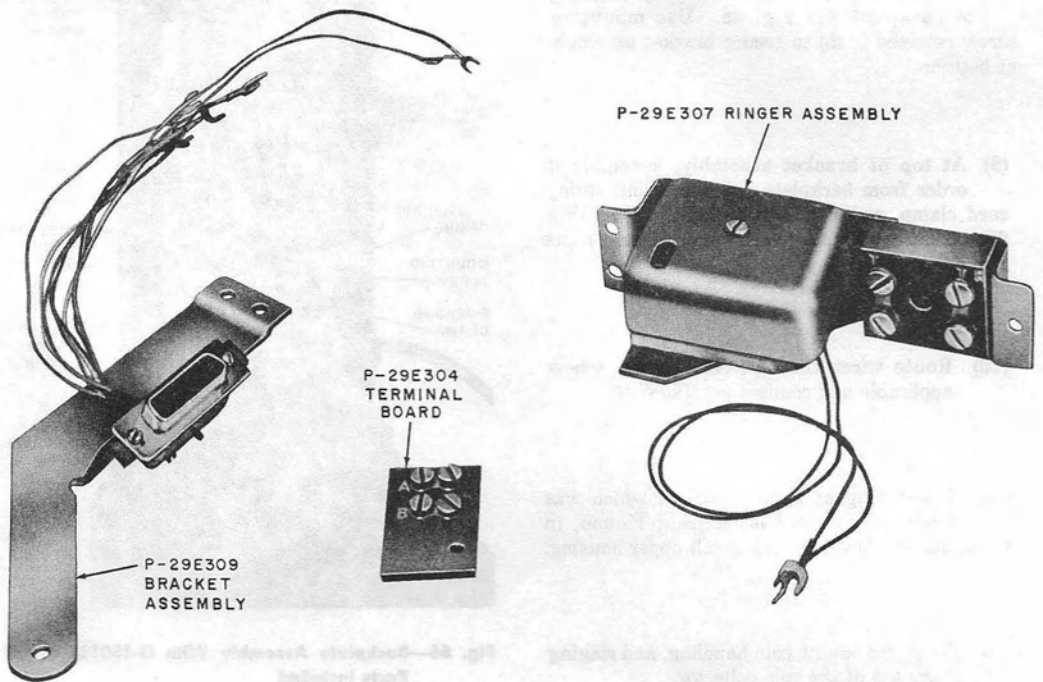
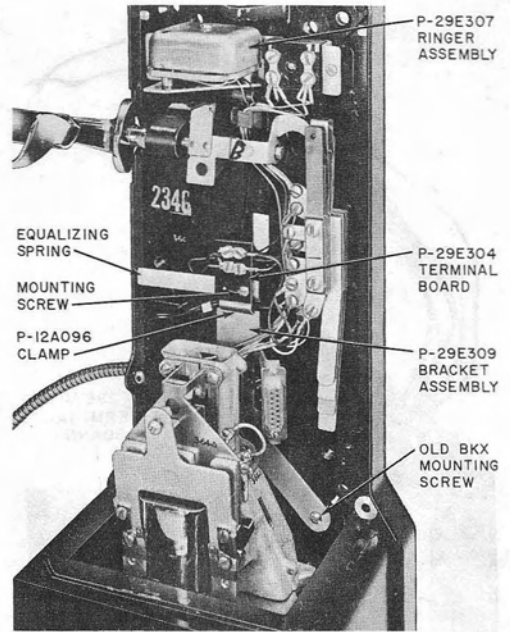

Fig. 65—D-180120 Kit For Modification of Backplate Assembly
Fig. 66—Backplate Assembly With D-180120 Kit of Parts Installed
**7.02** The D-180120 kit to be installed in the field consists of P-29E307 ringer assembly, P-29E309 bracket assembly, and P-29E304 terminal board (Fig. 65).
(1) Disconnect wires per Table M.
- (2) Remove subscriber set.
- (3) Disconnect (BK) wire from between BBX of switchhook and BB of transfer contacts.
- (4) Remove and discard terminal plate assembly at top of backplate assembly. Retain hardware.
- (5) Install P-29E307 ringer assembly (Fig. 65) in same position as terminal plate assembly was located using the retained hardware (Fig. 66).
- (6) Remove and discard BKX transfer spring at right of coin relay. Retain mounting screw.
- (7) Remove and retain equalizing spring, cord clamp, and associated fastener.
(8) Install P-29E309 bracket assembly (Fig. 65) to backplate per Fig. 66. Use mounting screw retained in (5) to secure bracket assembly at bottom.
(9) At top of bracket assembly, assemble in order from backplate out, equalizing spring, cord clamp, and P-29E304 terminal board (Fig. 65). Secure with hardware retained in (6) (see Fig. 66).
(10) Route wires through cord guides where applicable and connect per Table N.
(11) Insert plug of upper housing, which was modified in the Distributing House, in connector on backplate and install upper housing.
(12) Check continuity, coin handling, and ringing operation of the coin collector.